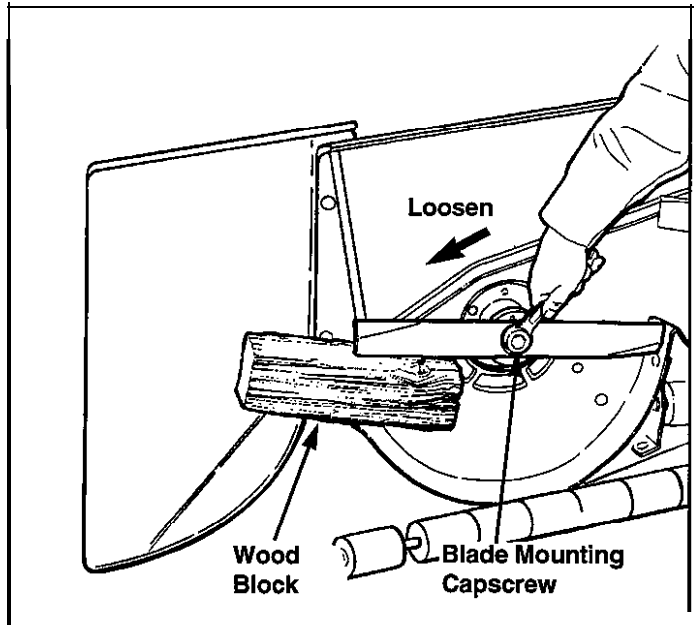

Figure 14. Removing the Blade
3. To remove blade for sharpening, use wooden block to hold blade while removing the blade mounting cap-screw (figure 14).